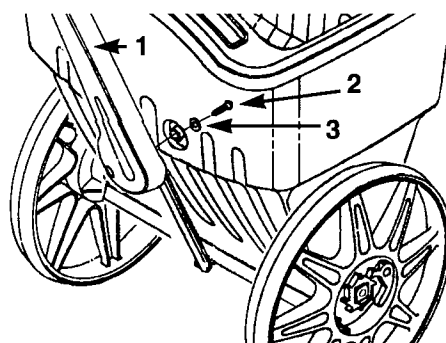

Figure 13
13. Retain the hopper lever against the hopper, using a Phillips screw and washer from inside the hopper (Fig. 13).